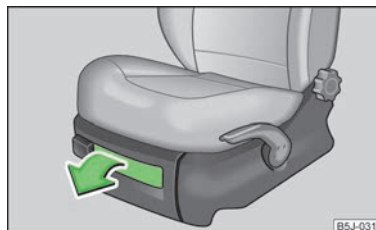

Fig. 71
- To open the lid, pull the handle » Fig. 71.